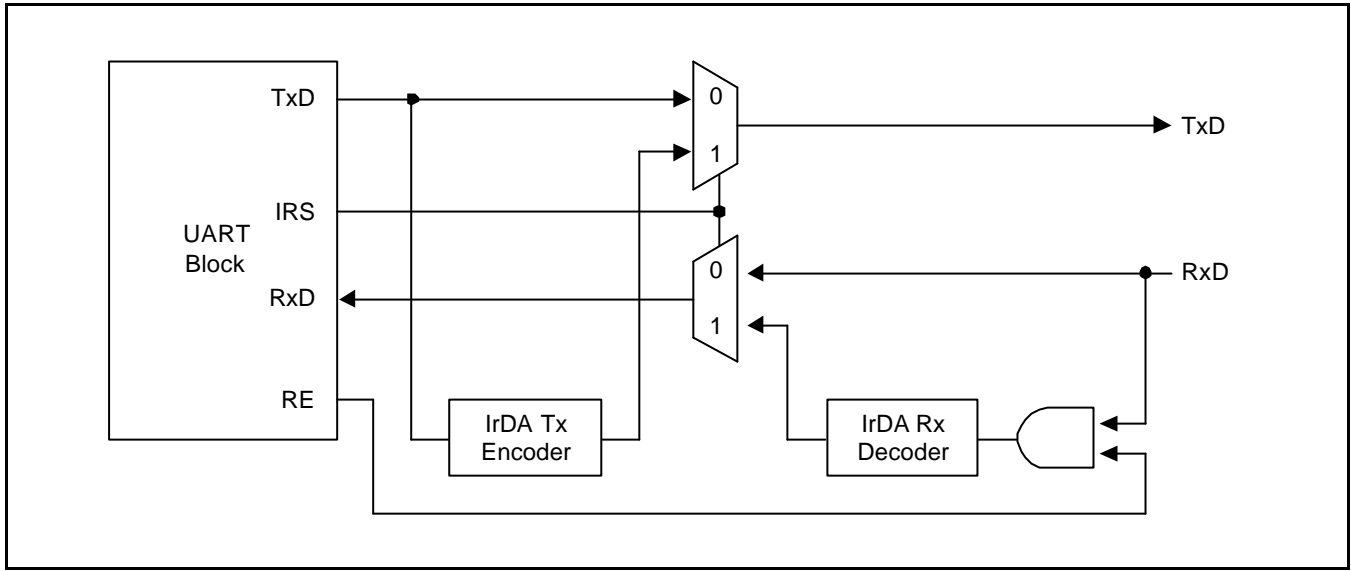

Figure 11-4. IrDA Function Block Diagram
The S3C2440A UART block supports infrared (IR) transmission and reception, which can be selected by setting the Infrared-mode bit in the UART line control register (ULCONn). Figure 11-4 illustrates how to implement the IR mode.